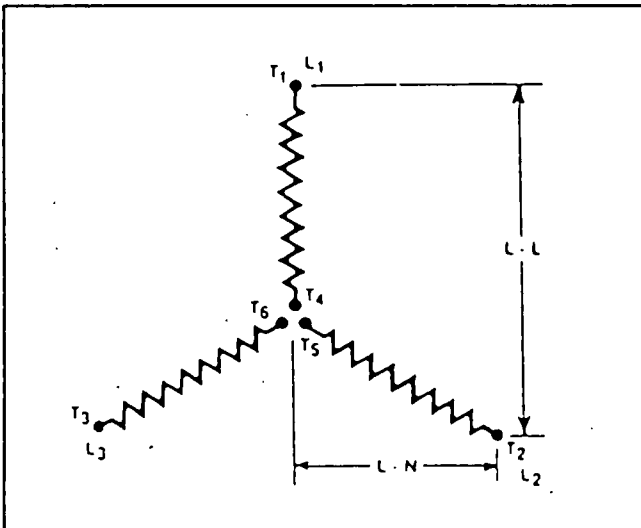

Figure 17. The 6-Lead Wye Connected System
This system has a stator with six (6) windings and either 6 or 12 leads coming out of the stator. See Figure 17.